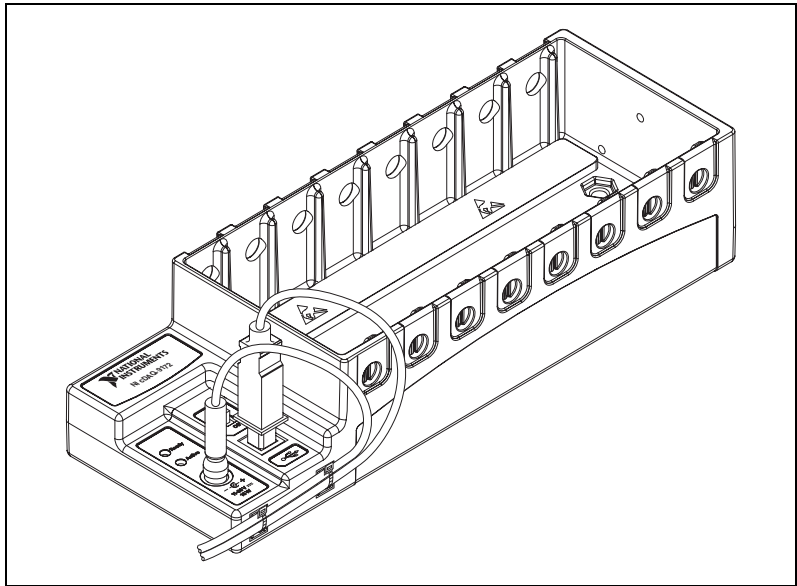

Figure 7. cDAQ Chassis With Secured Cables
9. Secure the power supply and USB cables, as depicted in Figure 7, using the two tie wraps and adhesive tie wrap mounts included in the shipping kit. The tie wraps and adhesive mounts help secure the non-latching USB connection. They can also be used to route the cables to a desirable position.